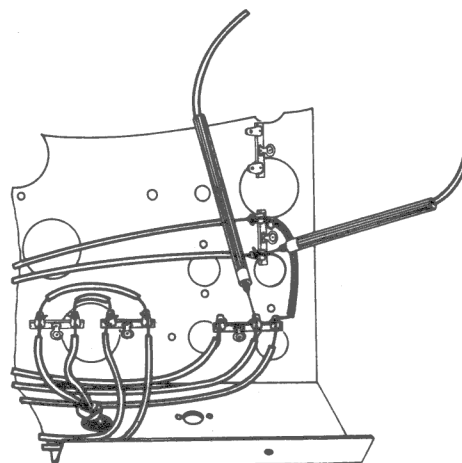

Fig. 14-17
Step 8. Reverse the connection to the 6-volt winding. To do this, unsolder the lead that connects it with the high-voltage secondary and solder it instead to the other lug of the 6-volt winding. Check your work with Fig. 14-17.